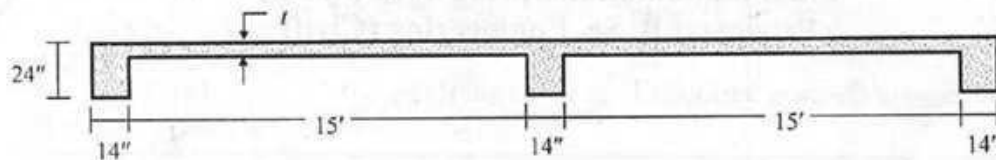
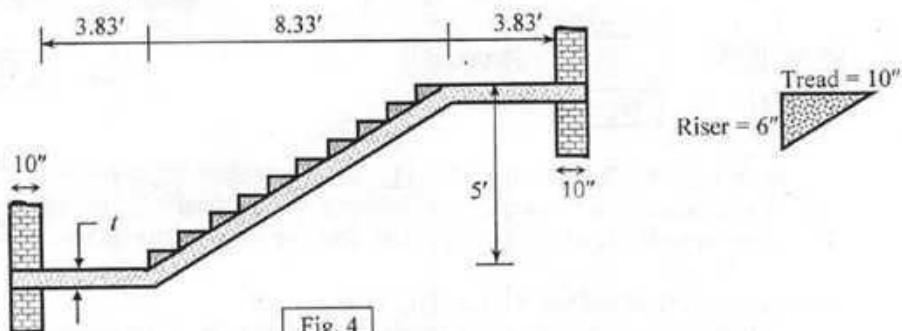

Fig. 3
Fig. 4
8. Use the design BMD of beam ABC (Fig. 1) to design the L-beam (by USD) and T-beam (by WSD) at section B (i.e., with design moment = $wL^2/12$, where $L = 24'$) of the slab-beam system (Fig. 3), if slab thickness $t = 5''$, floor finish = 30 psf, random wall = 60 psf and live load = 60 psf.
9. Fig. 3 shows sectional view of a one-way slab-beam system (i.e., unsupported in the other direction). Determine the thickness (t) of the slab and use the WSD to calculate the
- Live load (LL) on the slab if the T-beam carries working load of 4 k/ft, assuming the slab to carry working loads including floor finish = 30 psf, random wall = 60 psf, in addition to self-weight and LL.
10. Fig. 4 shows a staircase simply-supported on 10" brickwalls. Determine the thickness (t) of the waist-slab and use USD (with $\rho_s = 0.25\rho_{max}$) to calculate the